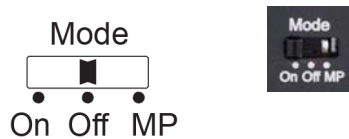

Fig. 14 Mode selector switch graphic and view
You can adjust the desired operating mode using the mode selector switch (8), see Fig. 5, see Fig. 14.